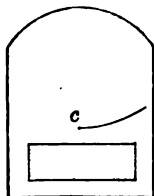

FIG. 69
1. *Stable Equilibrium.* A body so supported that a small disturbance will *raise* its center of gravity, is in stable equilibrium; that is, it will return to its former position as soon as it is free to do so. Fig. 69 shows an example of stable equilibrium.